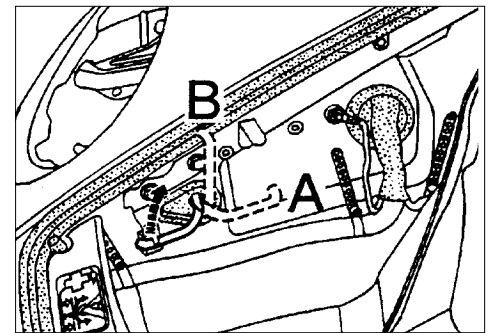

Figure 2
2.1 - Unclip the headlight locking lever and turn the lever 180° to the rear (Figure 2, Position A)
2.2 - Turn the locking lever 90° to the front, until the lever points to the top (Figure 2, Position B).